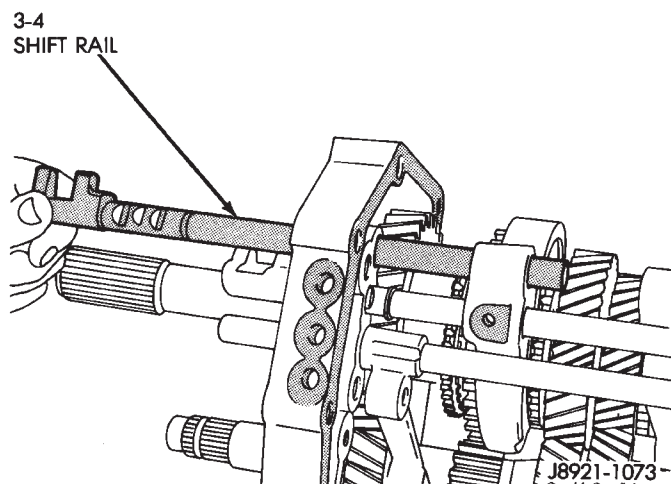

Fig. 89 Install 3-4 Shift Rail
(18) Install the 3-4 shift rail through the intermediate plate, 1-2 and 3-4 shift forks (Fig. 89).